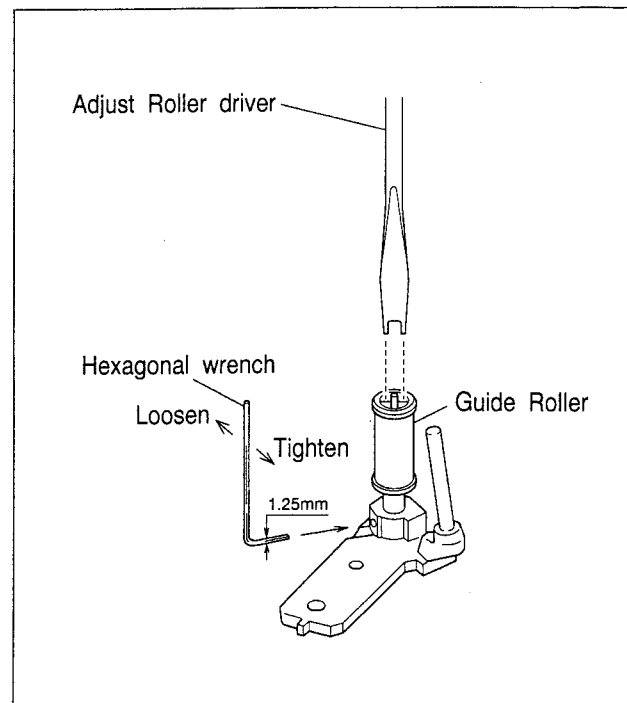

Fig. 2-8-2
- (5) Using a hexagonal wrench, gently loosen the set screw at the bottom of the pole base assembly. (Be careful not to loosen it too much.) (See Fig. 2-8-2.)
- (6) Reduce the V.PB FM waveform while pressing the channel buttons (+, -) during playback. If a drop in level is found on the left side, turn the guide roller of the pole base assembly (supply side) with the roller driver to make the V.PB FM waveform linear.
- (7) Then play back the alignment tape (A2) and make sure that the V.PB FM waveform varies in parallel and linearly with the tracking operation. When required, perform fine-adjustment of the guide roller of the pole base assembly (supply or take-up side).
- (8) After completing adjustment, tighten the set screw at the bottom of the pole base assembly. (Be careful not to tighten it too much.) (See Fig. 2-8-2.)
- (9) Unload the cassette tape once, play back the alignment tape (A2) again and confirm the V.PB FM waveform.